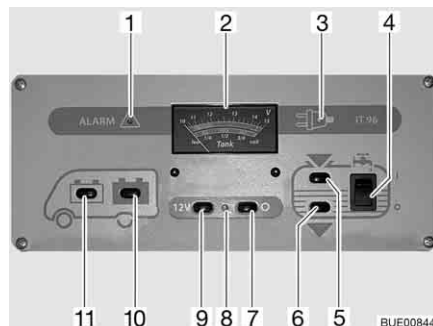

Fig. 87 Panel IT 96-2
The 12 V main switch (Fig. 87,7 and 9) switches the panel and the 12 V power supply to the living area on and off.
- Press switch (Fig. 87,9) "12 V": The 12 V living area power supply is switched on. The indicator lamp (Fig. 87,8) lights up green.
- Press switch (Fig. 87,7) "O": The 12 V living area power supply is switched off. The indicator lamp (Fig. 87,8) goes out.
With the V/tank gauge (Fig. 87,2), note the top scale. The gauge automatically lights up as soon as a switch is pressed.
- Press switch (Fig. 87,11) "🔌": The battery voltage of the starter battery is displayed.
- Press switch (Fig. 87,10) "🔌": The battery voltage of the living area battery is displayed.
The V/tank gauge is for the indication of the quantity of water or waste water. With the V/tank gauge (Fig. 87,2), use the bottom scale. The gauge automatically lights up as soon as a switch is pressed.
- Press switch (Fig. 87,5) : The volume of water is displayed.
- Press switch (Fig. 87,6) : The volume of waste water is displayed.
- Press the upper part of the rocker switch (Fig. 87,4) "I": The water supply is ON.
- Press the lower part of the rocker switch (Fig. 87,4) "O": The water supply is OFF.
The red "ALARM" warning light (Fig. 87,1) flashes as soon as the voltage of the living area battery falls below 11 V (measured under operation) and there is a risk of a total discharge.
The 12 V indicator lamp (Fig. 87,8) illuminates whenever the 12 V main switch (Fig. 87,9) is switched on.
The yellow 230 V indicator lamp (Fig. 87,3) illuminates whenever line voltage is available at the transformer/rectifier input.